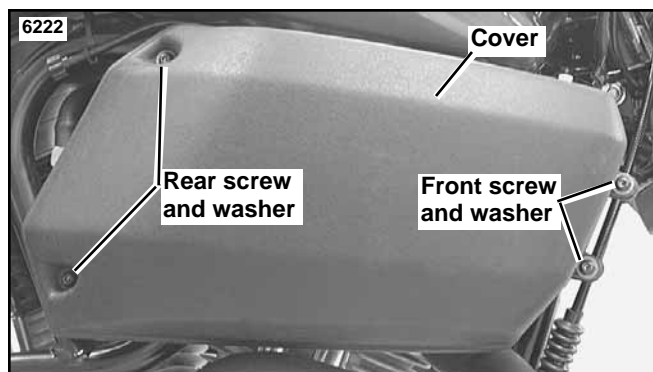

Figure 11. M2 or S3 Stock Air Cleaner Cover
4. See Figure 11. Remove both front screws and nylon washers.